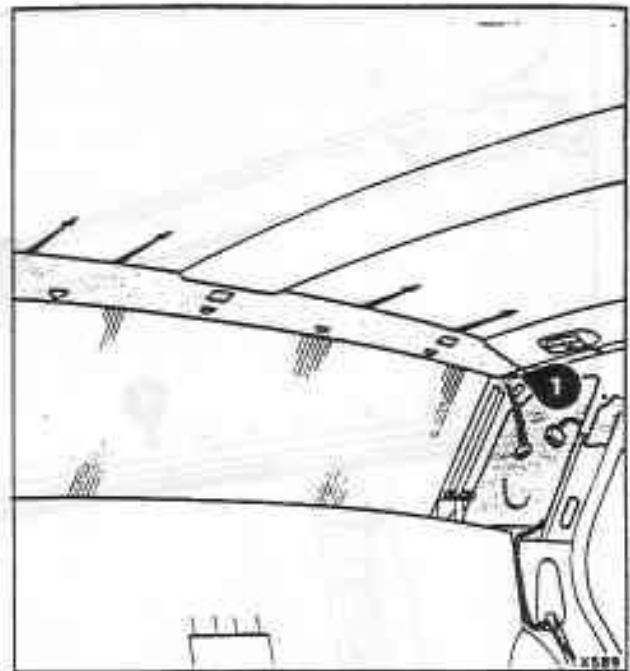

Fig. S8-7 Rear header trim panel
Remove the screw from each end of the panel (see fig. S8-7, item 1). Then, pull the panel forward to disengage the rear retaining brackets.